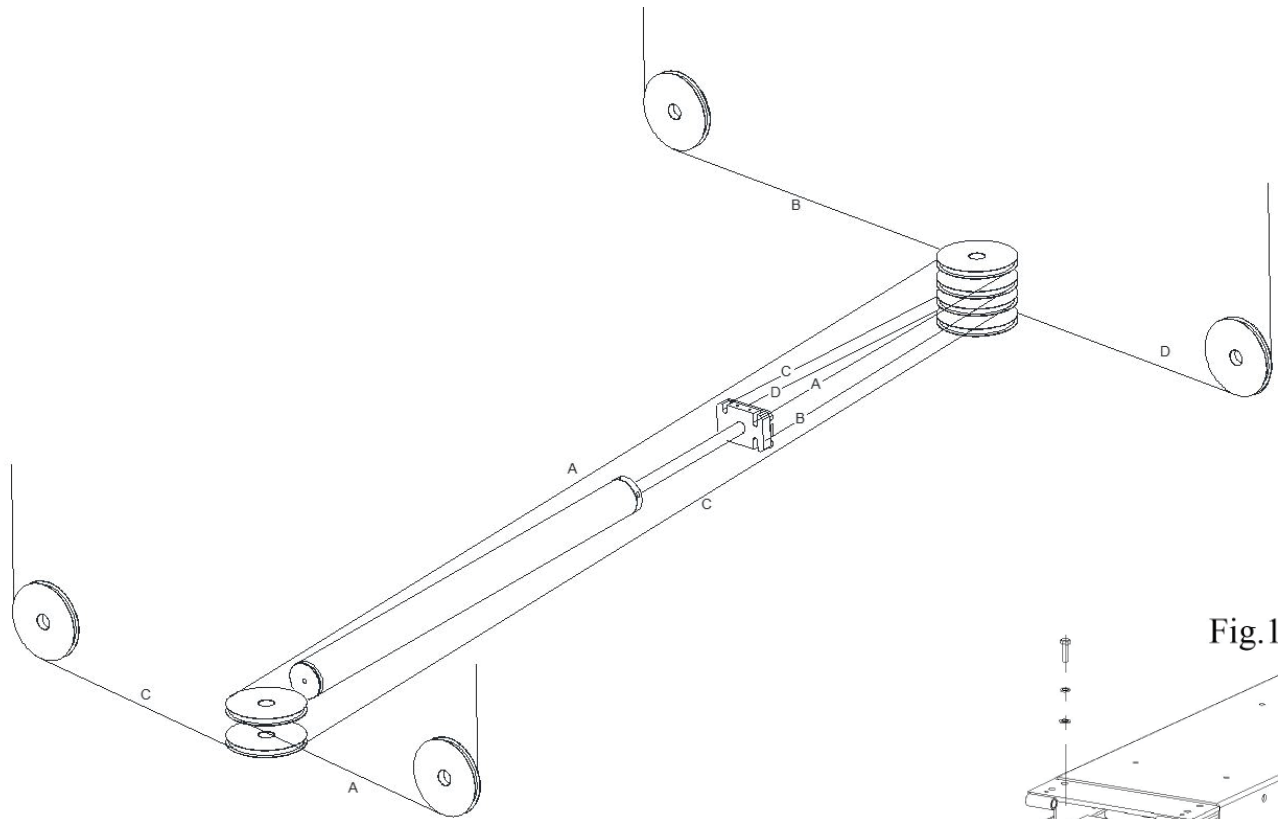

Figure 14 – Cable Routing Diagram
- Slide the steel cables from the end of power-side runway and route the cables through the transverse beams referring to the routing diagram (fig. 14). Make sure that the cables are not twisted during routing and routed on the correct pulleys in runways.